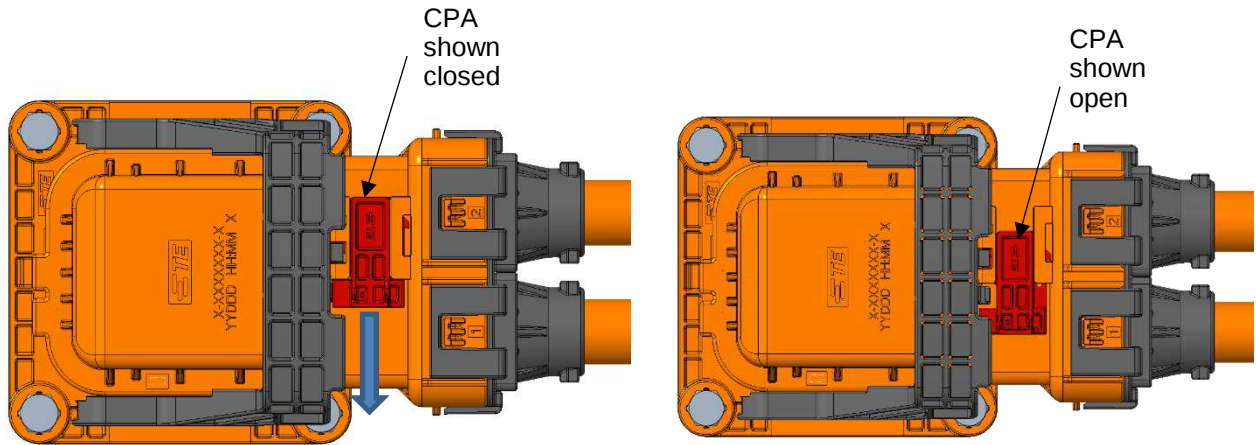

Figure 23: CPA Actuation from Close to Open
1. Push the red CPA forward until it stops as shown in Figure 23.